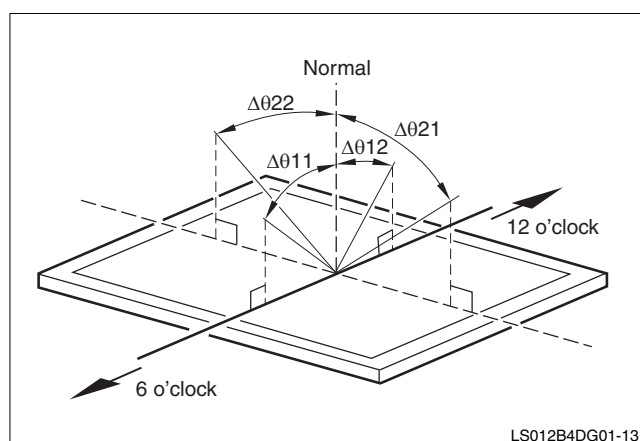

Figure 3. Viewing Angle
- Viewing Angle is described as clock positions: θ_{12} = 12 o'clock, θ_{11} = 6 o'clock, θ_{21} = 3 o'clock, θ_{22} = 9 o'clock. See Figure 3.